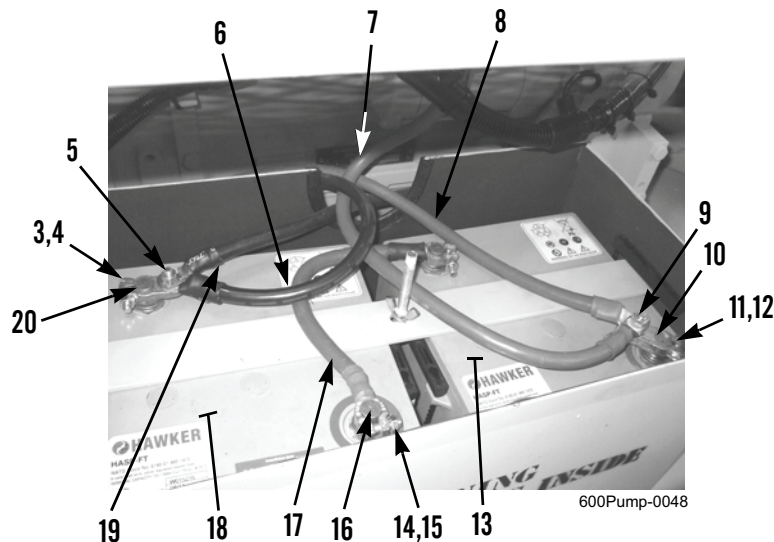

Figure 4. Battery Cables.
- c. Install battery holddown (Figure 3, Item 21) over batteries (Figure 4, Items 13 and 18). Install wingnut (Figure 3, Item 23) on threaded retaining bolt (Figure 3, Item 22) hand tight. Wrench-tighten wingnut another full turn (360 degrees).
- a. Connect positive battery cable (Figure 4, Item 7) to starter solenoid (WP 0109).
- b. Connect negative battery cable (Figure 4, Item 19) to chassis ground (WP 0109).
- c. Connect negative battery cable (Figure 4, Item 6) and positive battery cable (Figure 4, Item 8) to NATO electrical receptacle (WP 0035).
- d. If removed, install terminal lug (Figure 4, Item 10) on battery (Figure 4, Item 13) with bolt (Figure 4, Item 12) and nut (Figure 4, Item 11).
- e. If removed, install terminal lug (Figure 4, Item 20) on battery (Figure 4, Item 18) with bolt (Figure 4, Item 4) and nut (Figure 4, Item 3).
- f. Install terminal lug (Figure 4, Item 16) and jumper cable (Figure 4, Item 17) on negative terminal of battery (Figure 4, Item 13) with bolt (Figure 4, Item 15) and nut (Figure 4, Item 14).
- g. Repeat step f to install jumper cable (Figure 4, Item 17) on positive terminal of battery (Figure 4, Item 18) with bolt (Figure 4, Item 15) and nut (Figure 4, Item 14).
- h. Connect positive battery cables (Figure 4, Items 7 and 8) to positive terminal of battery (Figure 4, Item 13). Install and tighten nut (Figure 4, Item 9).
- i. Connect negative battery cables (Figure 4, Items 6 and 19) to negative terminal of battery (Figure 4, Item 18). Install and tighten nut (Figure 4, Item 5).